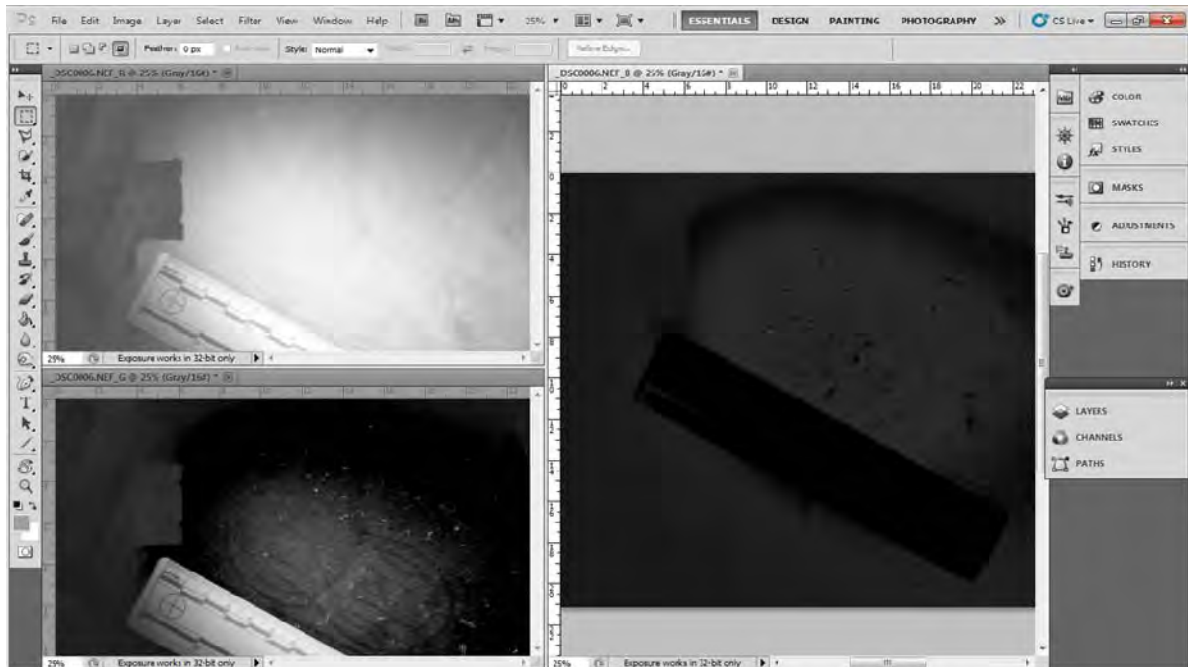

Figure 4. The RGB channels split and arranged for all to be viewed.
In order to ensure consistency with regard to the UV absorbers across the various model years, an MSP spectrum was taken from each of the selected samples at an area close to the color coat. This would be the depth at which the clear coat would be expected to have the least possible degradation. In order to observe the changes in UV absorber concentration through a layer, spectra were taken from closest to the color coat and moving outwards towards the environment (*Figure 4*).
*Figure 4* – Example of a paint chip cross-section with how the clear coat was sampled for MSP analysis within a layer. Spot 1 is closest to the color coat and Spot 4 is closest to the environment.
Split Channels, then Windows > Arrange > Tile (see Figure 4). An excellent way of approaching this can be seen in George Reis’s book [1].